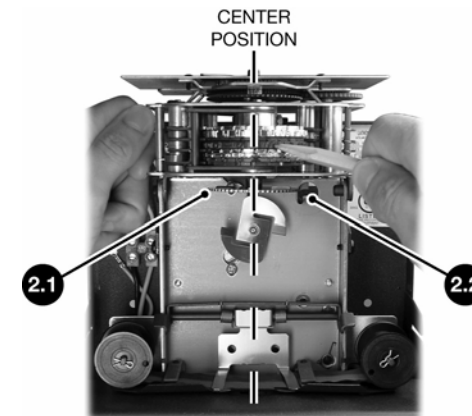

Figure 2
1. Locate the Center Line where all the wheels line up as shown in Figure 2.
2. Rotate the wheels using a pointed object. Rotate each wheel until the correct date and time are aligned at the Center Position, as shown in Figure 2. *Hint: Start at the top wheel and work down when setting.*
6. Rotate the **Main Setting Wheel - Figure 2, 2.1** to advance both the Clock Face and Print Wheels together. Rotate until you pass the actual time by one minute (each “click” indicates one minute.)
7. Hold the corner of the Clock Face and release the **Release Latch - Figure 2, 2.2** by pushing it to the left. Slowly let the Type Section down and press it firmly into the Type Section Headlock.